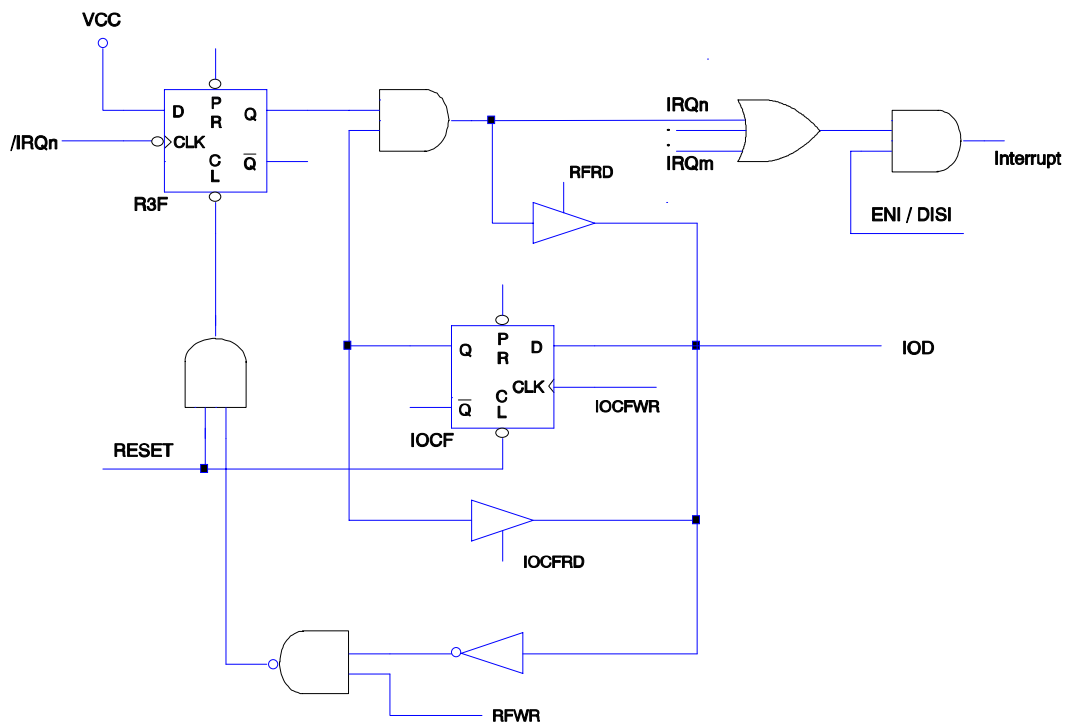

Fig. 9 Interrupt input circuit
- Global interrupt is enabled by ENI instruction and is disabled by DISI instruction. Refer to Fig. 9.
The flag in the Interrupt Status Register (R3F) is set regardless of the status of its mask bit or the execution of ENI instruction. Note that reading R3F will get the output of logic AND of R3F and IOCF. Refer to Fig. 9. The RETI instruction exits interrupt routine and enables the global interrupt (execution of ENI instruction). When an interrupt is generated by INT instruction (when enabled), causes the next instruction to be fetched from address 002H.